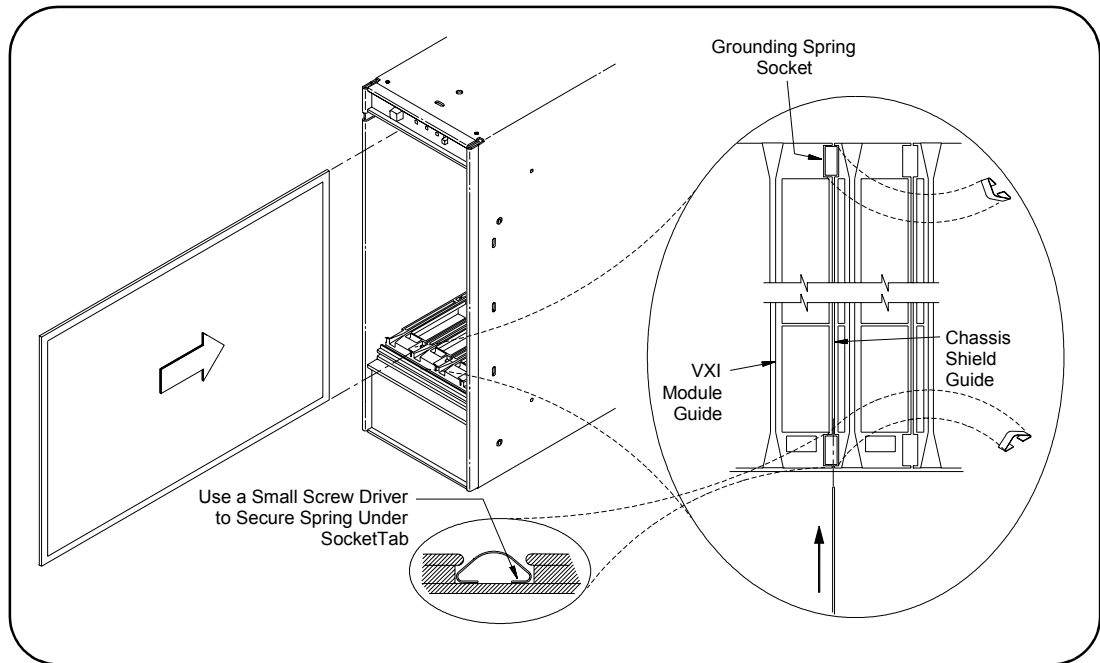

Figure 2-17. Installing the Grounding Springs and Chassis Shield.
- 2 Select the holes for the LH and RH Rack Mount Adapters. See Figure 2-17 for the RH Rack Mount Adapter hole locations. (LH Rack Mount Adapter hole locations are the same.)
Installing the Mainframe Install the Mainframe in the Rack Cabinet (Figure 2-17)